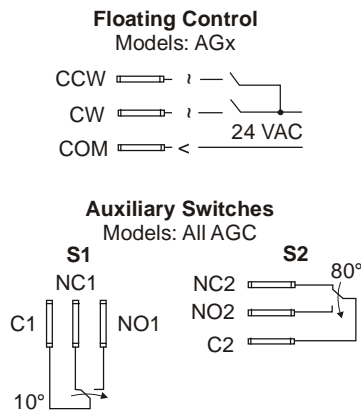

Figure 3: Wiring for M9106-AGx Models
4. Insert the cable wires through the plastic plug, compression fitting, or conduit fitting, and connect to the terminals using the appropriate wiring diagram in Figure 3.
Note: At this point, the normally closed contact closes, and the normally open contact opens. (See Auxiliary Switches in Figure 3.)
Note: At this point, the normally closed contact opens, and the normally open contact closes. (See Auxiliary Switches in Figure 3.)